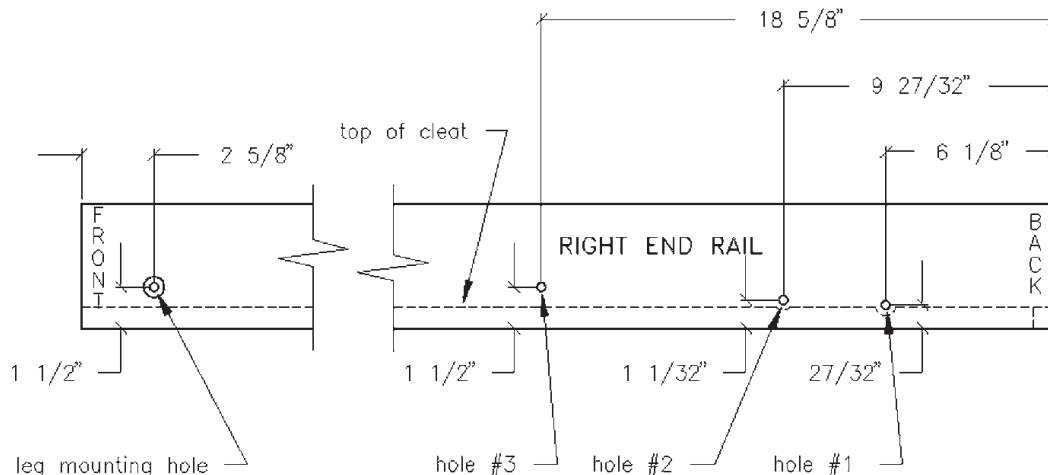

Figure 8. Locating the Lift Mechanism & Leg holes.
- Using a 1/16" bit, *very accurately* drill four pilot holes in each of the end rails. Three at the back end for the Lift Mechanism and one at the front end for the leg attachment, see **Figure 8** for locations.
- Insert the two 5/16" x 1 1/4" Allen sockethead bolts from the *outside* of the End Rails through the #1 holes at the back end of the End Rails (see **Figures 8 & 11**). Place a 5/16" x 7/8" flat washer and 5/16" Nylock nut on each screw end and *tighten securely*. Now insert two 5/16" x 1 1/4" hexhead bolts from the *outside* of the End Rails through the #3 holes. Place a 5/16" x 7/8" flat washer and 5/16" Nylock nut on each bolt end, threading the nut only until it is flush with the bolt end. *Pull the two #3 bolt heads outward so that you have at least a 1/4" space between them and the outside face of the rails.*